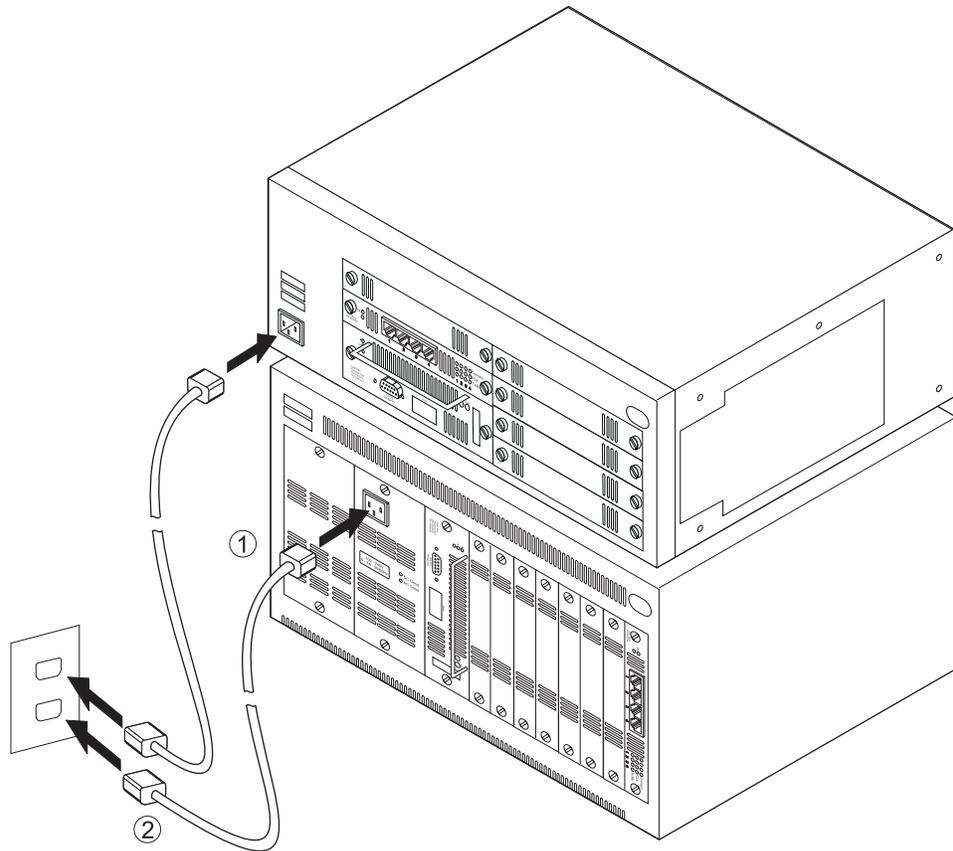

Figure 2-15. Powering On the 8270
The 8270 does not have a power switch. It is powered on by connecting the line cord to the 8270 and then to an ac outlet. See Figure 2-15. Be sure to connect the line cord to the power supply (1) before connecting it to the ac outlet (2). To power on the 8270-600 and to verify that it is operating correctly, see “Powering on the 8270-600.” To power on the 8270-800 and to verify that it is operating correctly, see “Powering on the 8270-800” on page 2-25.